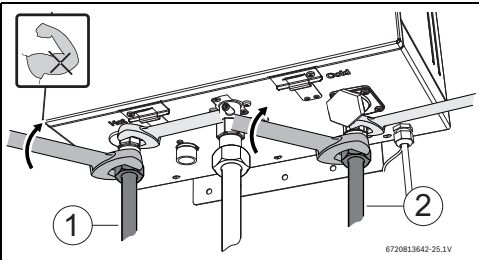

Fig. 12
- ▶ Tighten all water connections with the support of a wrench, see Fig. 12.